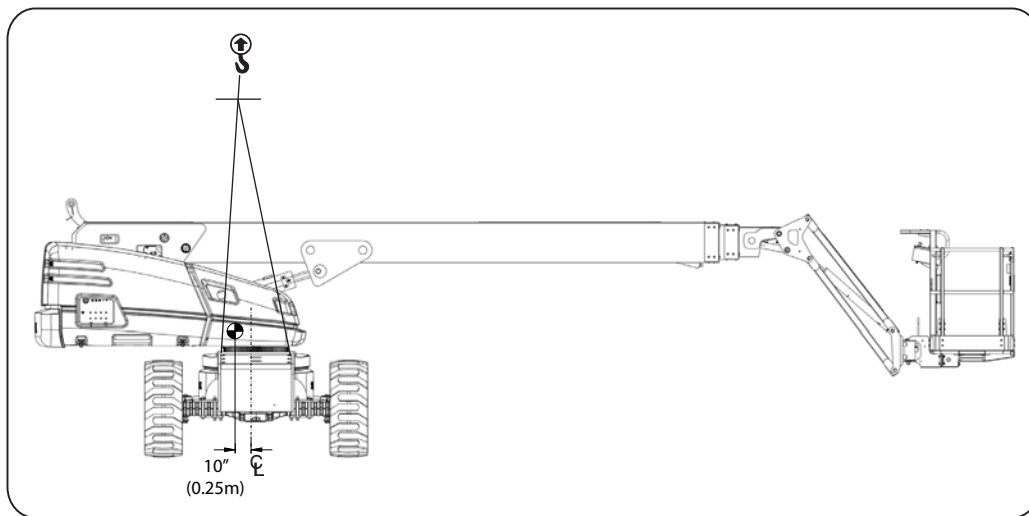
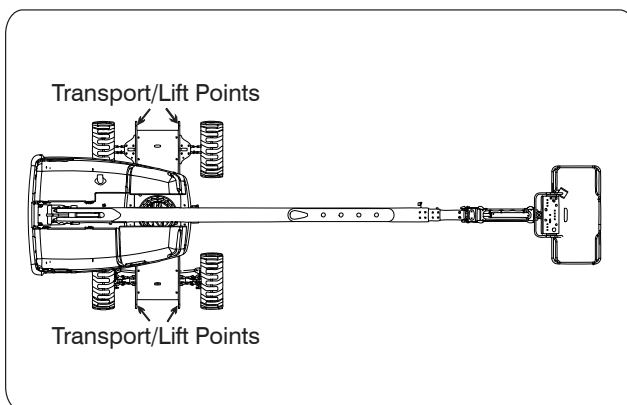
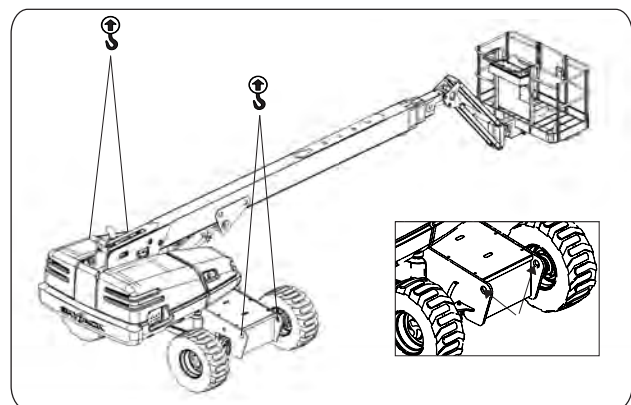

Figure 3-15. 61/66T Center of Gravity
Figure 3-16. 61/66T Overhead View Lifting Points
Figure 3-17. 61/66T Lifting Points
1. Rotate the boom and position the aerial platform as shown in Figure 3-15 and Figure 3-16..
**When lifting the aerial platform, lifting devices must be attached to designated lift points only (refer to Figure 3-16 and Figure 3-17).**
4. Properly adjust rigging to ensure aerial platform remains level during lifting. See Center of gravity location (Figure 3-15).